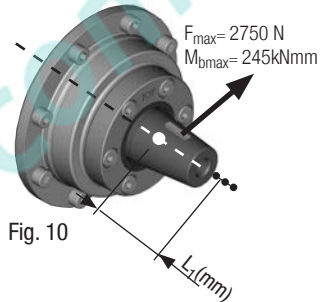

Fig. 10
- The engagement force applied by the belt tension (centre of shaft taper, see Fig. 10) must not exceed $F_{\max \text{ per.}} = 2750 \text{ N}$.
- If the force engagement point shifts to the right (see Fig.10, small point), the force $F_{\max \text{ per.}}$ reduces as per the following formula: